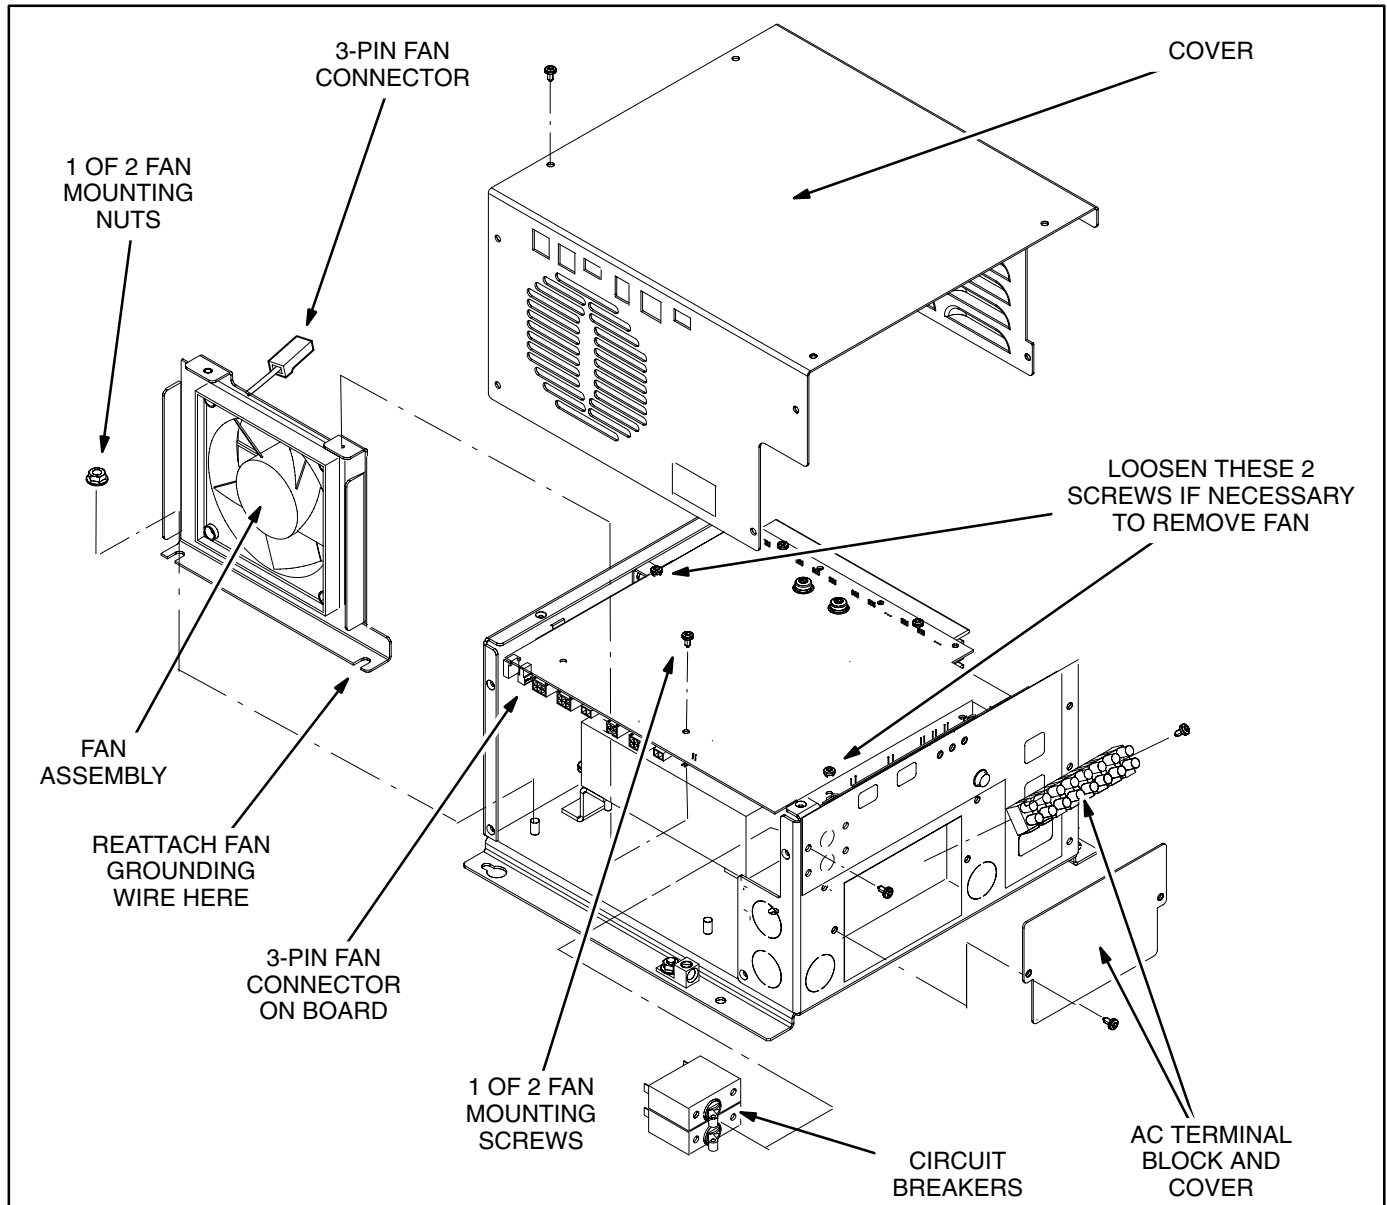

FIGURE 36. REPLACEABLE PARTS OF THE INVERTER-CHARGER
Replace the fan assembly in accordance with the following steps. Refer to Figure 36.
9. Remove the fan assembly mounting hardware: 2 screws (T20) to control board and 2 nuts (10 mm) to base and withdraw the assembly. (It may be necessary to loosen the 2 control board mounting screws pointed out in Figure 36 to enable withdrawal of the fan assembly.)
Replace the circuit breakers in accordance with the following steps. Refer to Figure 36.
Replace the AC terminal block in accordance with the following steps. Refer to Figure 36.